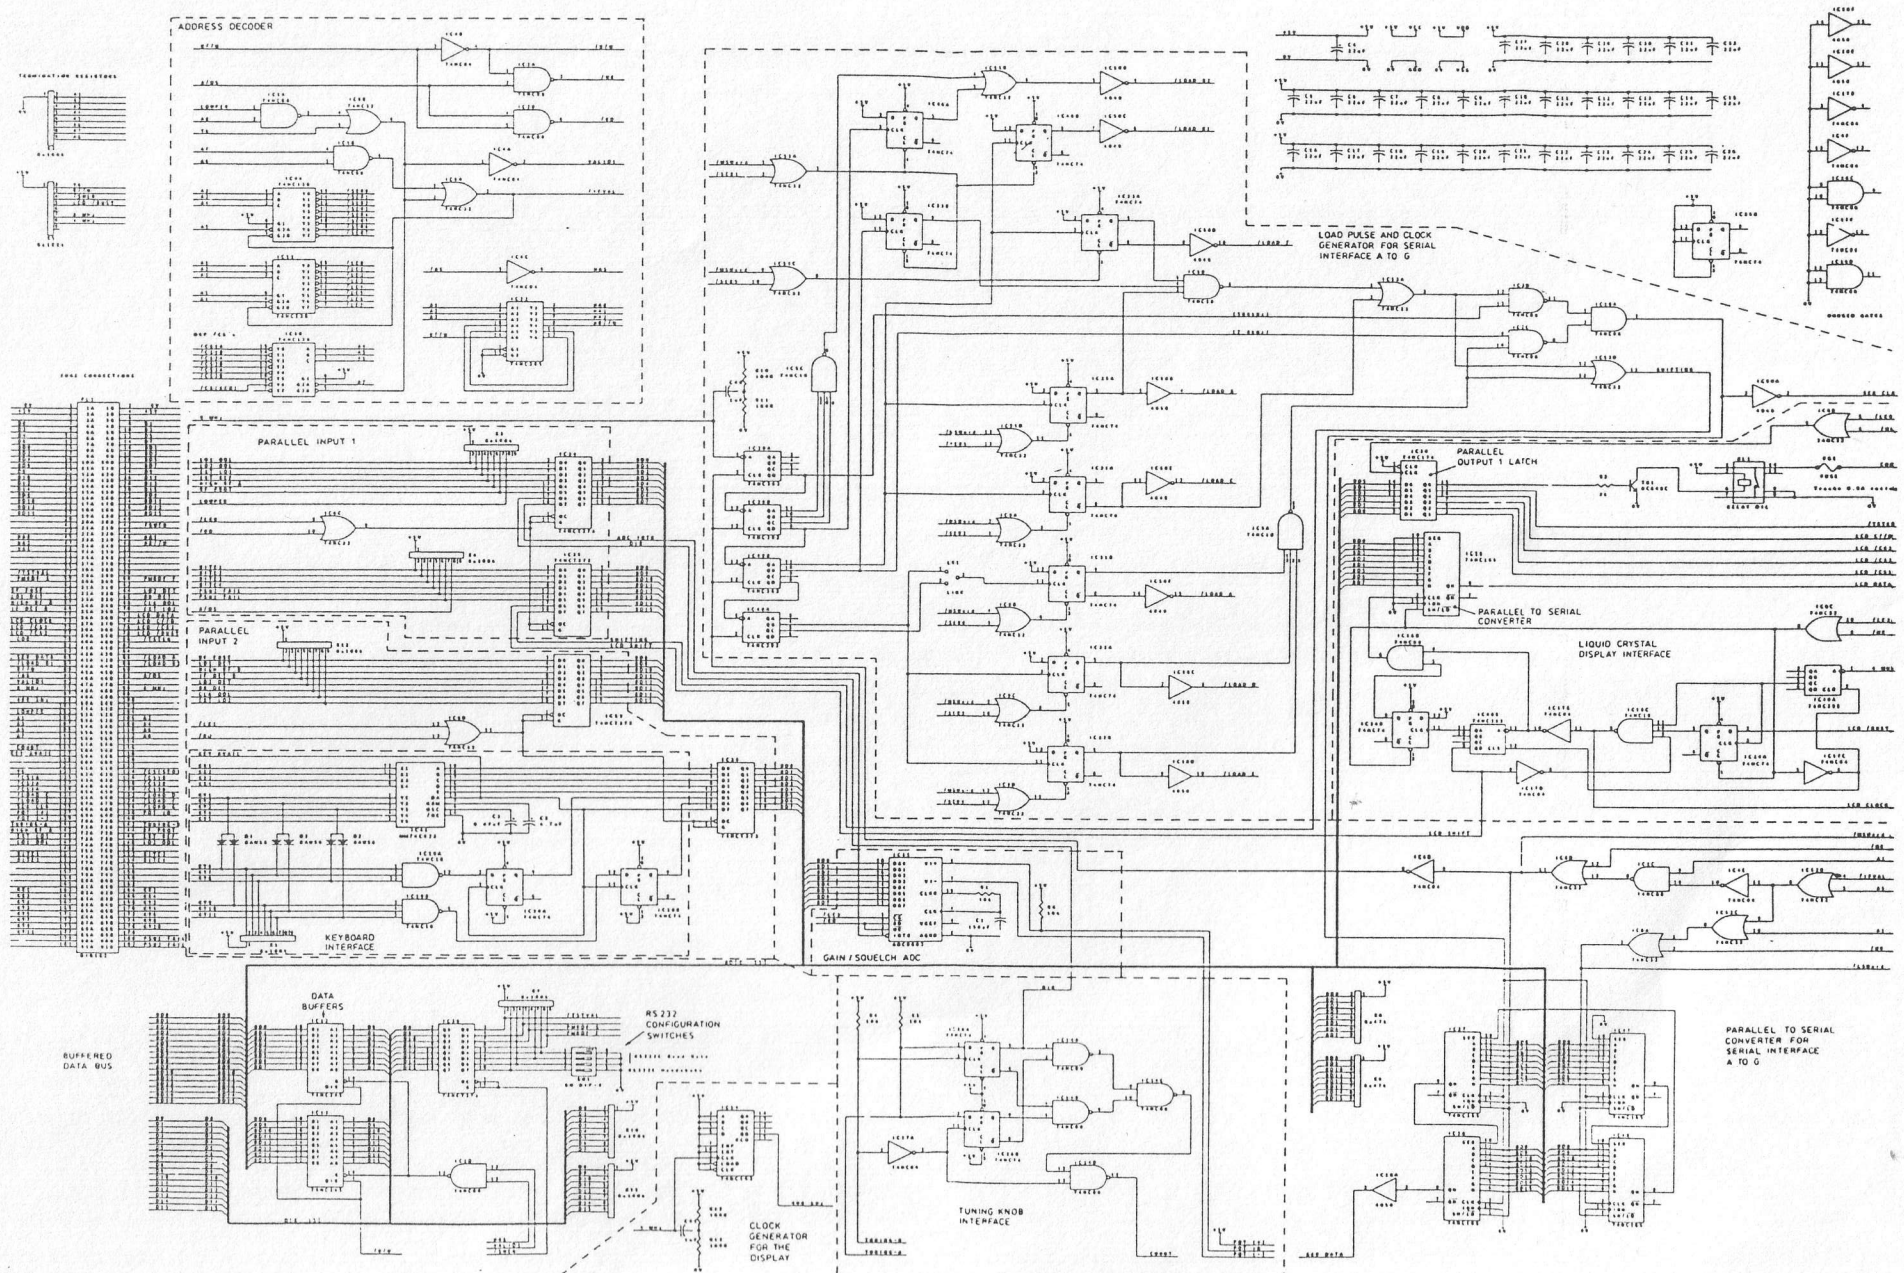

Figure 4 - Controller Interface Board Circuit Diagram
- Figure 4 DSP Board Component Layout